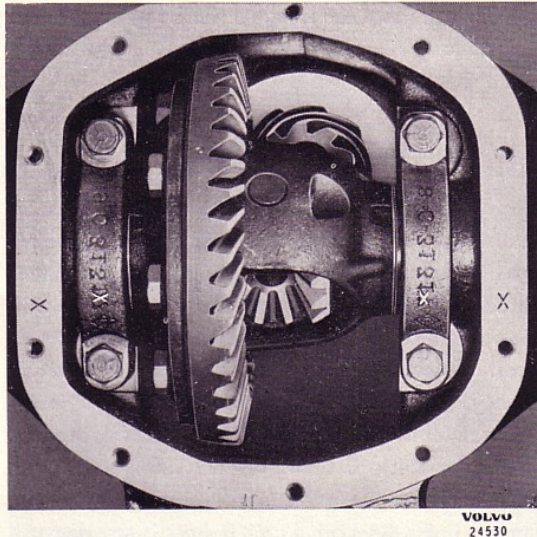

Fig. 11. Alignment markings on cap and carrier.
6. Check the aligning marks on the cap (2) and the carrier (21), see Fig. 11. If there are no markings, or if they are difficult to see, mark one side with a punch. Remove the cap.